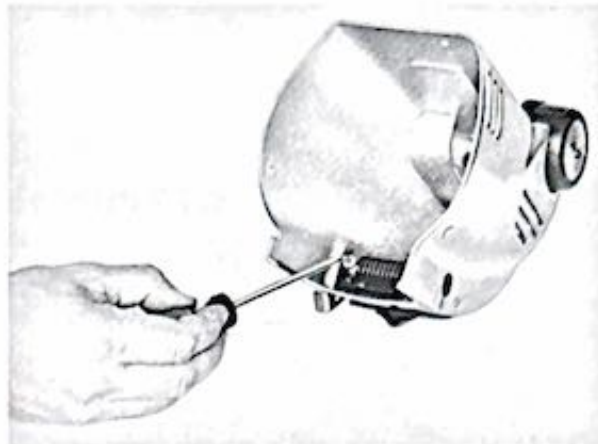

Figure 1-20. Removing screw from spring bushing
(3) If spring (11) is not broken, release the spring tension before proceeding. Note in which notch of bushing (24) the tab of yoke (22) is located. The orientation of the yoke tab and the right bushing notch is critical to setting the correct spring tension during reassembly.
(4) Engage the pin of the spring tool (SP123) into one of the unused notches of the bushing. Twist it against the force of the spring. Inserting a screwdriver blade between the yoke and the bushing lip, disengage the yoke tab from the bushing notch. If the tab catches in the next notch, repeat the procedure until the spring is loose on the shaft.
(5) Remove spring screw (23) from bushing (24), and pull the bushing and yoke from the shell. See figure 1-20.